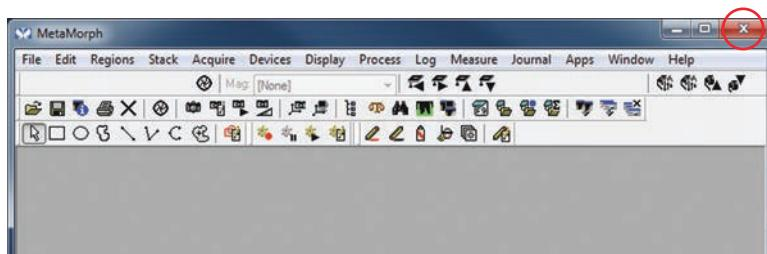

Figure H-25. Close the MetaMorph Program
6. Click the “X” to separately close the MetaMorph program, as shown in Figure H-25.